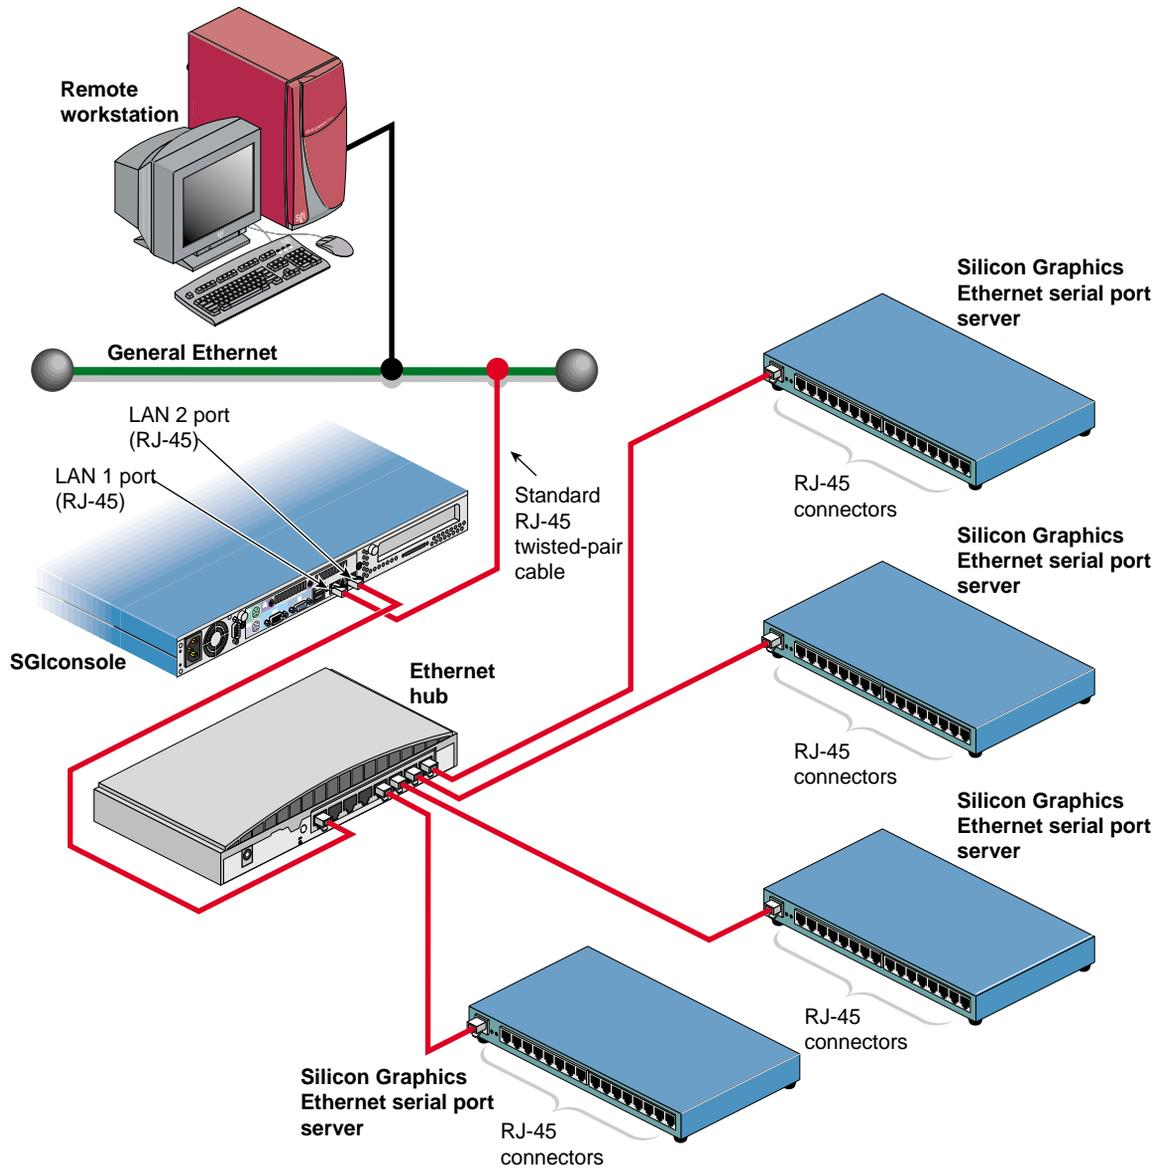

Figure 3-7 Example Connection of Serial Port Servers to an SGIconsole via an Ethernet Hub
3. Connect one end of the crossover RJ-45 cable to an RJ-45 jack on one of the Ethernet hubs, and connect the other end to the leftmost RJ-45 jack on the Silicon Graphics EL serial port server. See Figure 3-7.